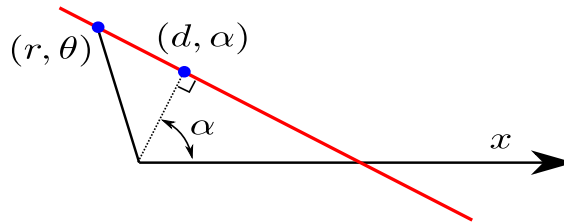

Figure .3: Representation of a line drawn a distance d from the origin.
22. Determine the equilibrium shape of a crystal. This should be done using a computer and your favorite program or language (most likely MATLAB). The equation of a straight line in polar coordinates drawn from the origin of the polar coordinate system is $r \cos(\theta - \alpha) = d$, where (r, θ) locate the points on the line, d is the perpendicular distance from the origin to the line and α is the angle between the perpendicular to the line and the x-axis (see Figure .3).